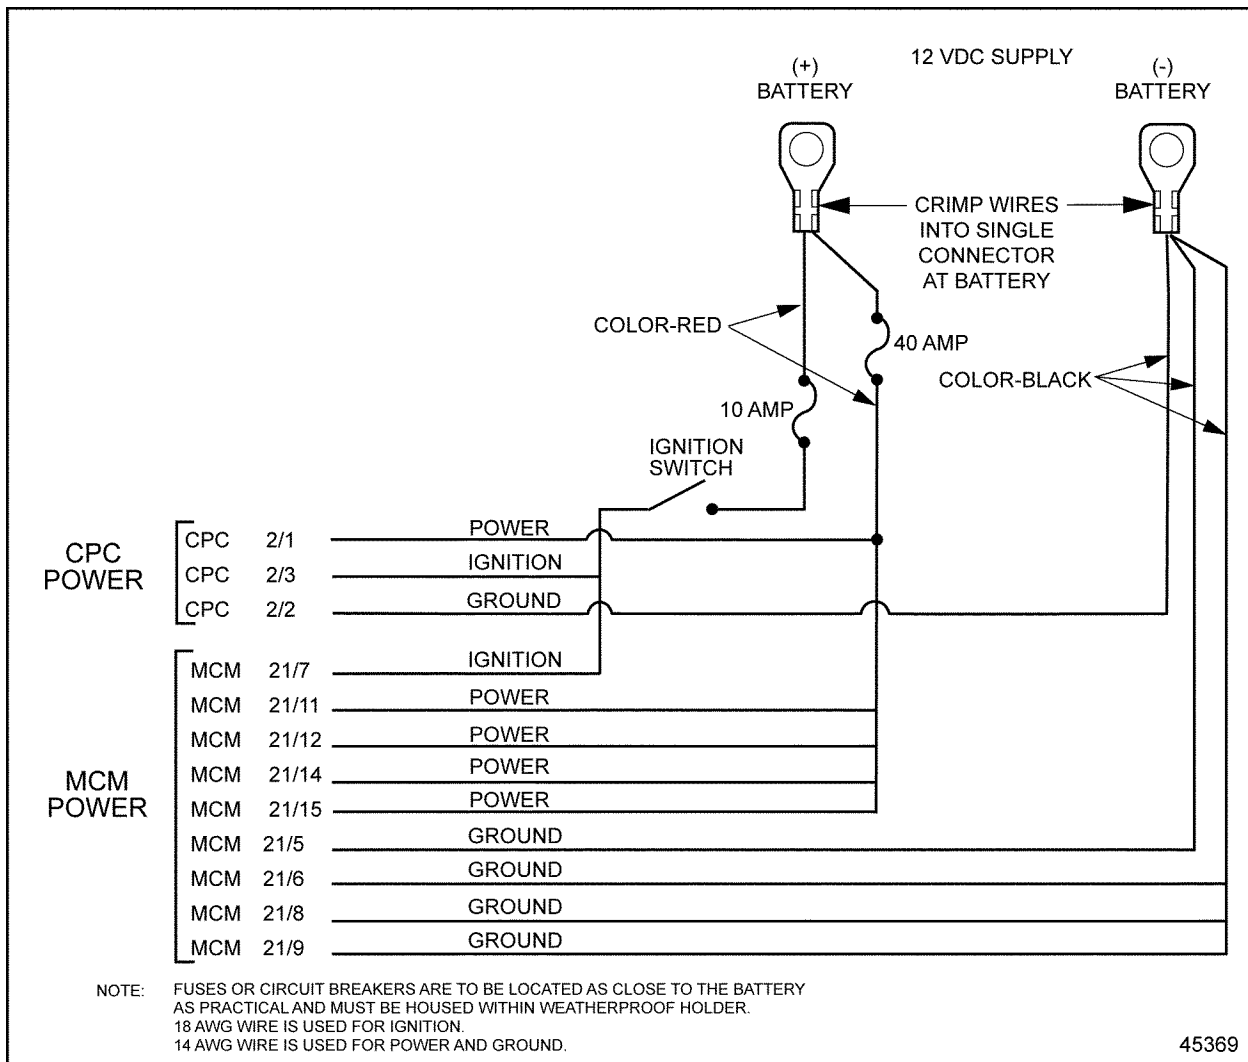

Figure 11-1 Power Wiring
2. Measure the voltage across the battery terminals. See Figure 11-1.
3. Measure the voltage between pins 2/2 and 2/3 of the CPC #2 connector (18-pin). See Figure 11-1.